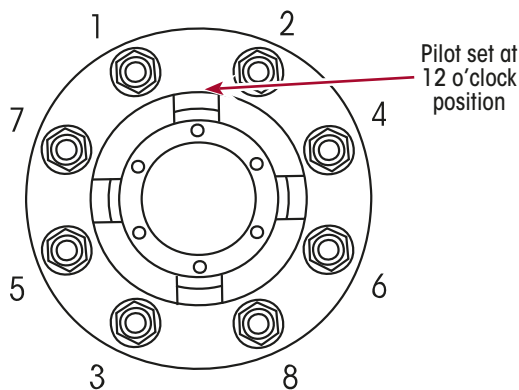
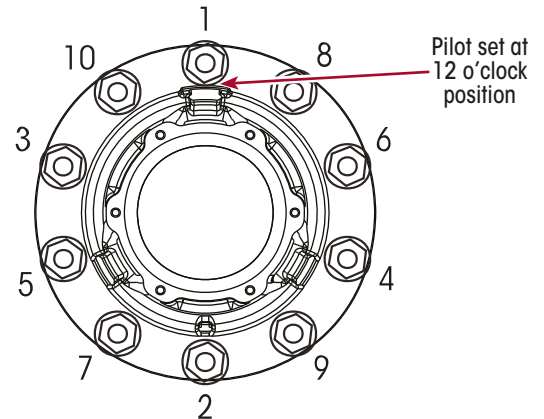

Figure 119: 8 Stud Tightening Sequence
Figure 120: 10 Stud Tightening Sequence
2. Rotate hub until a pilot boss is at the top (12 o'clock) position. This will help hold the drum up in position when being fitted and reduce likelihood of drum catching on pilot. Refer Figure 119 or Figure 120.
8. Using the applicable sequence shown in Figure 119 or Figure 120, tighten all wheel nuts to initial torque of **70 Nm**.